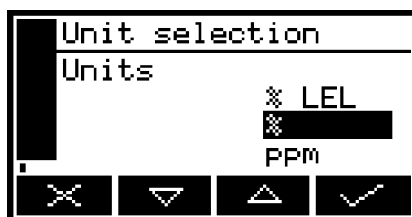

Figure 25 - The Units selection screen
4. If you want to change the currently displayed units, press the  soft key: the Units selection screen will then be displayed, as shown in Figure 25.